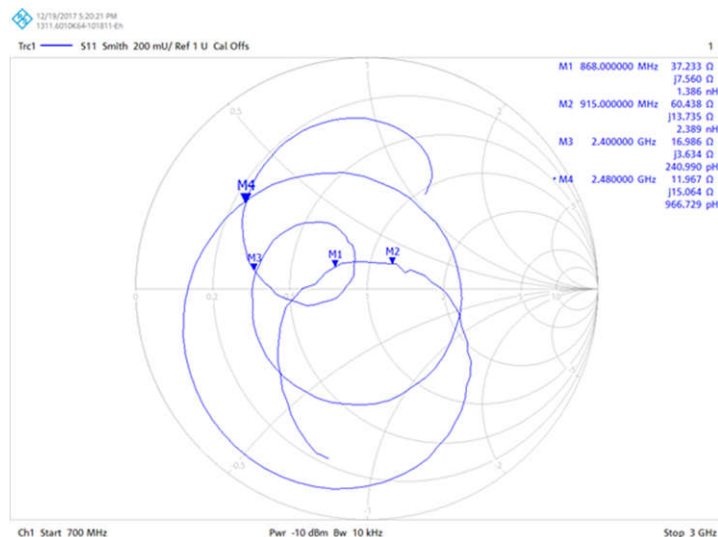
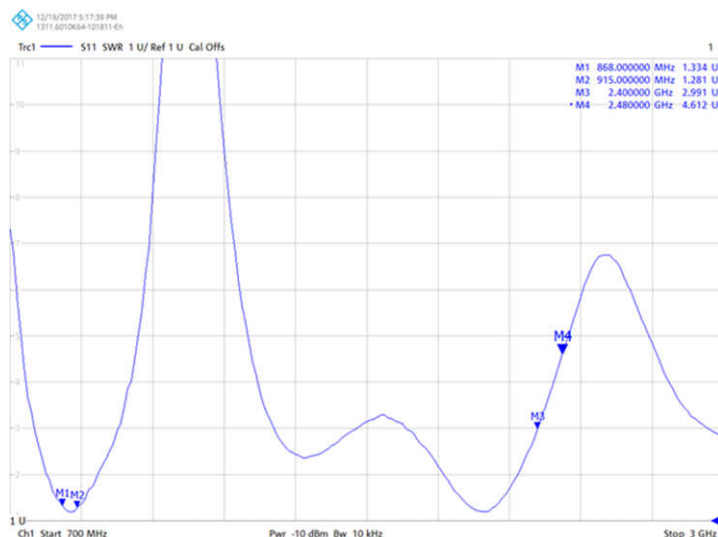

Figure 5-5. Smith Chart With Final Match Values of L_{HIGH} : 3.3nH and C_{LOW} : 5.6pF
Figure 5-6. VSWR Chart With Final Match Values of L_{HIGH} : 3.3nH and C_{LOW} : 5.6pF
- 2.44GHz: $16 + j8$, VSWR: 3.18:1 Reasonable match at the high-band but would prefer VSWR < 2.00:1; see Figure 5-5 and Figure 5-6.